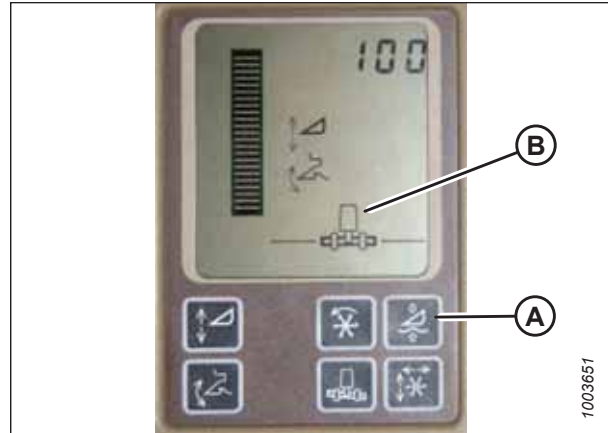

Figure 3.619: John Deere Combine Display
Do **NOT** use active header float function (A) in combination with the MacDon auto header height control (AHHC)—the two systems will counteract one another. Header symbol (B) on the display should **NOT** have a wavy line under it and should appear exactly as shown on the Active Header Control Display in Figure 3.619, page 386.